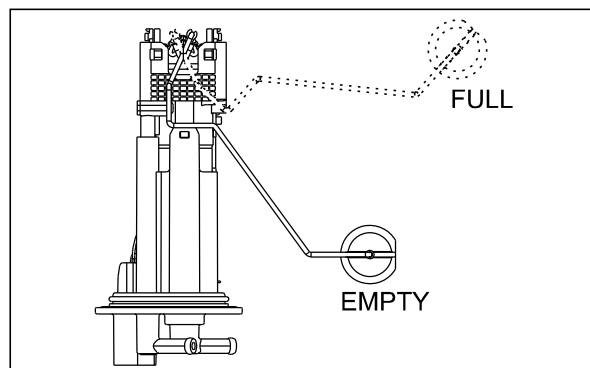

Fig. 5.68
- Set pocket tester at 200 ohms position and check the resistance of fuel sender unit. If the resistance value is not within the specified limit, replace the sender unit with new one. (Fig. 5.68)